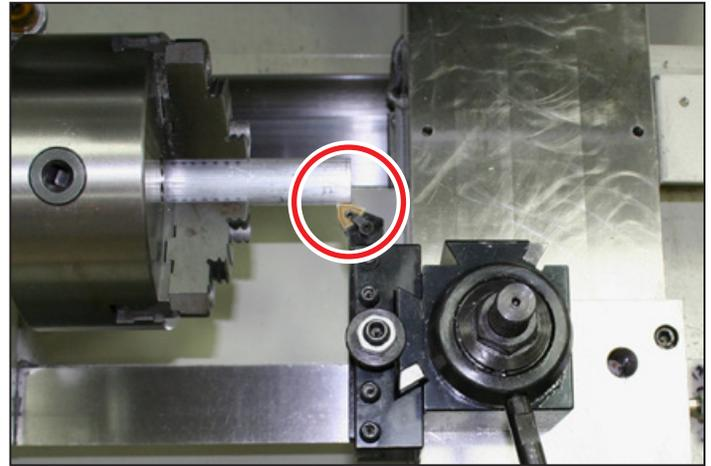

Figure 4.9
1. Jog the tool holder down in X, over in Z, and approach the workpiece in X until the face of the holder just barely contacts the workpiece in X (see **Figure 4.9**).